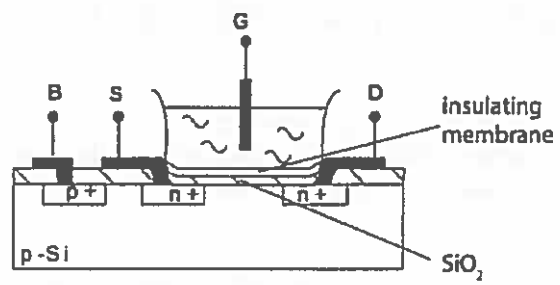

Figure 3.2
c) The sensor shown in Figure 3.2 is an Ion-Sensitive Field Effect Transistor.